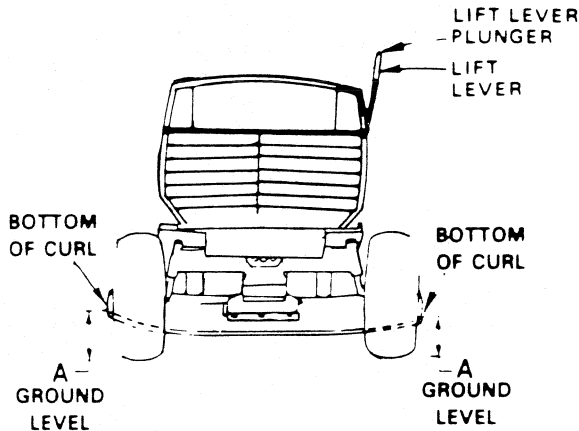

FIGURE 33
- b. Measure height from bottom of curl to ground line at front of mower. Distance "A" should be the same on both sides (Fig. 33).